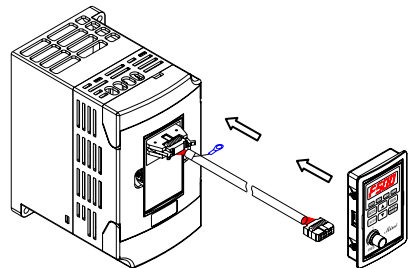

Fig. 3-7
STEP 4. Put the dismantled keypad into the installation frame. Fix and fasten it. Put the other side cable insert into the keypad.(as shown in the figure 3-7).